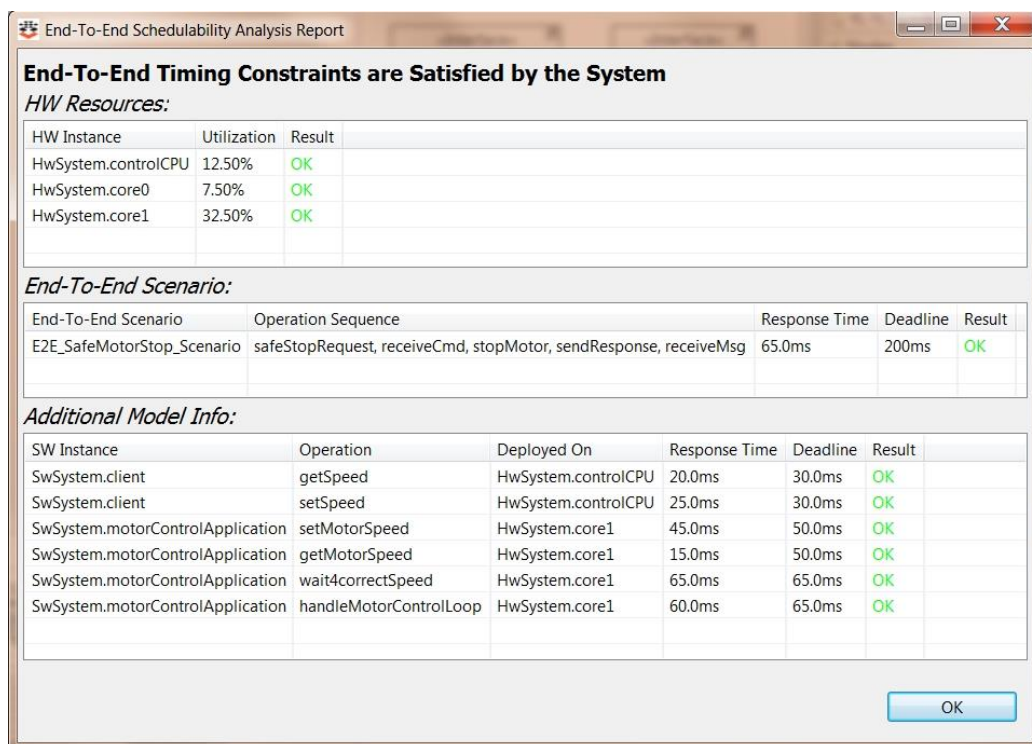

Figure 52 End2End Analysis Result pop-up window
13. Result appears in a pop-up window (Figure 52) where the first section (HW Resources) is described in 7). The second one details the result of the End-To-End Scenario analyzed. The last reports the response time of those operations in the model not involved in the End-To-End Scenario under analysis (as in 7)